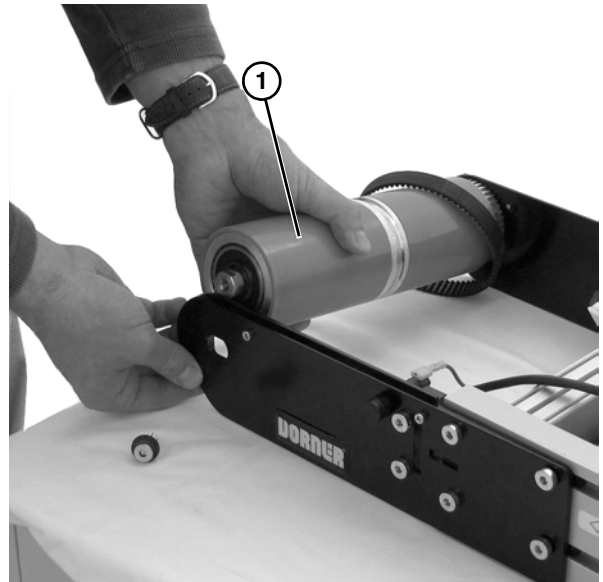

Figure 58
8. Remove drive spindle assembly (**Figure 58, item 1**) and replace.